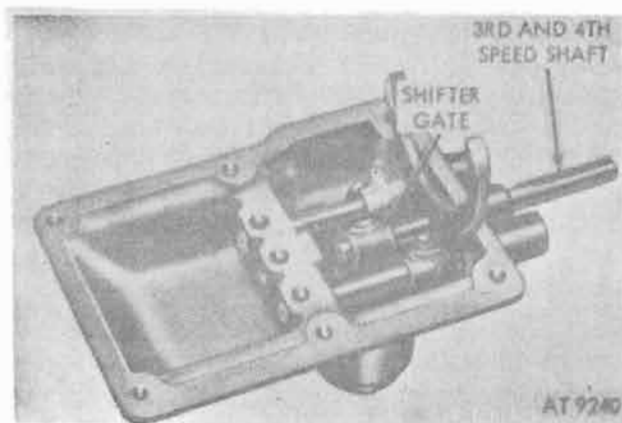

Figure 8-107. Third and fourth speed shifter gate—installed view.
i. Install third- and fourth-speed shifter gate on shaft. Assembly gate down as shown in figure 8-107.